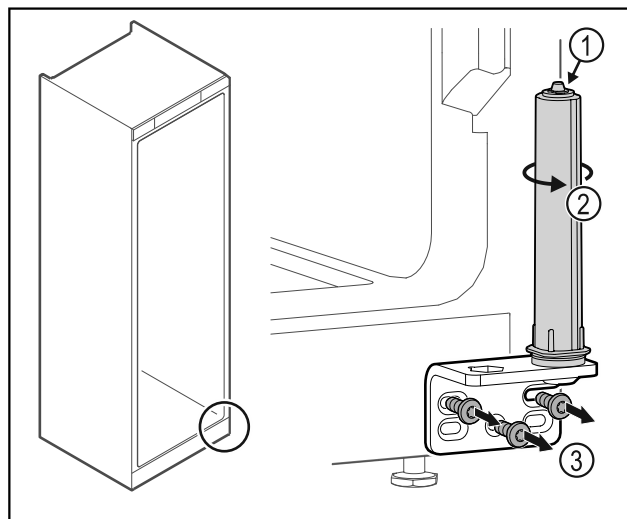

Fig. 27
- Do not disassemble the door closing system Fig. 27 (1).
- Turn the closing system Fig. 27 (2) until it clicks.
- Unscrew the hinge Fig. 27 (3).